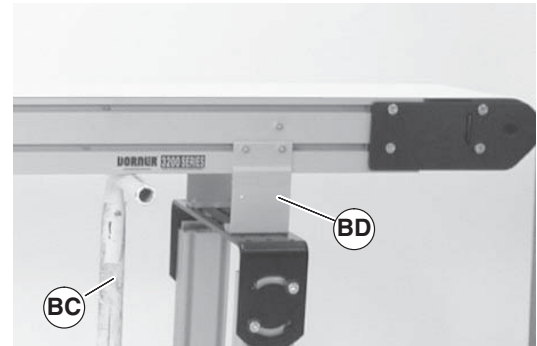

Figure 29
1. Place temporary support stands (Figure 29, item BC) at both ends of the conveyor. See WARNING.
4. Remove first mounting brackets (Figure 29, item BD) from one side of conveyor. (Reverse steps 3 & 4 of “Mounting Brackets” section on page 8).
1. Ensure temporary support stands (Figure 29, item BC) are placed at both ends of the conveyor. See WARNING.